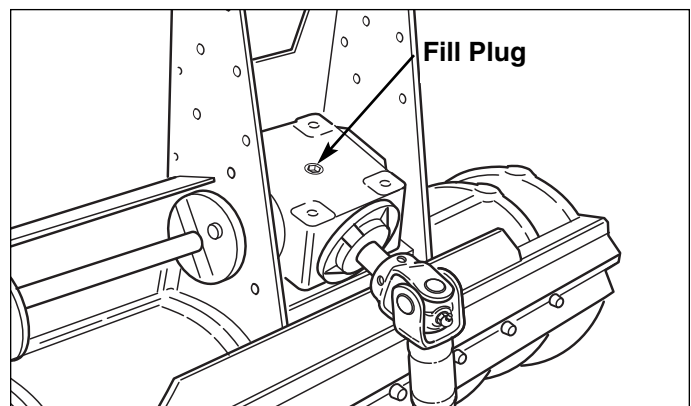

Figure 8. Fill Plug Location
2. Rotate the gear box to access the top fill plug (see Figure 8).